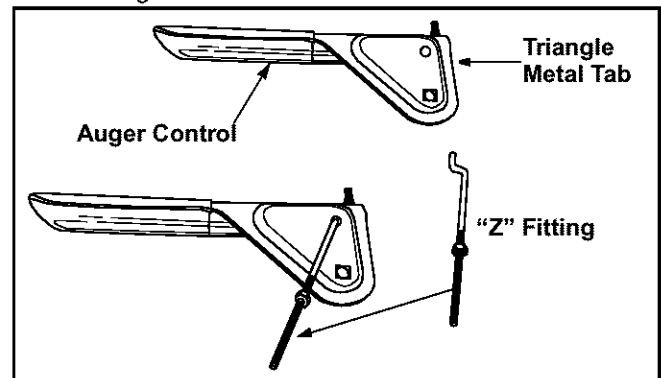

Figure 3
- Insert curved end of the Z fitting into the top hole in the triangular metal tab on the auger control grip. The triangular metal tab on the auger control grip must face the center of the handle panel. See Figure 3.